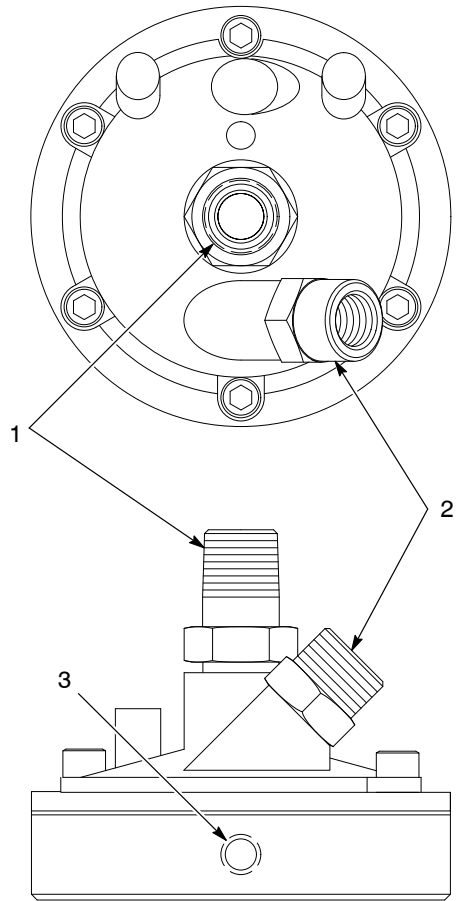

Figure 2 Low-Pressure Fluid Regulator Installation
1. See Figure 2. Connect the regulator fluid supply line to the inlet (1).
2. Connect the gun fluid supply line to the outlet (2).
3. Connect the air supply line to the air inlet (3).